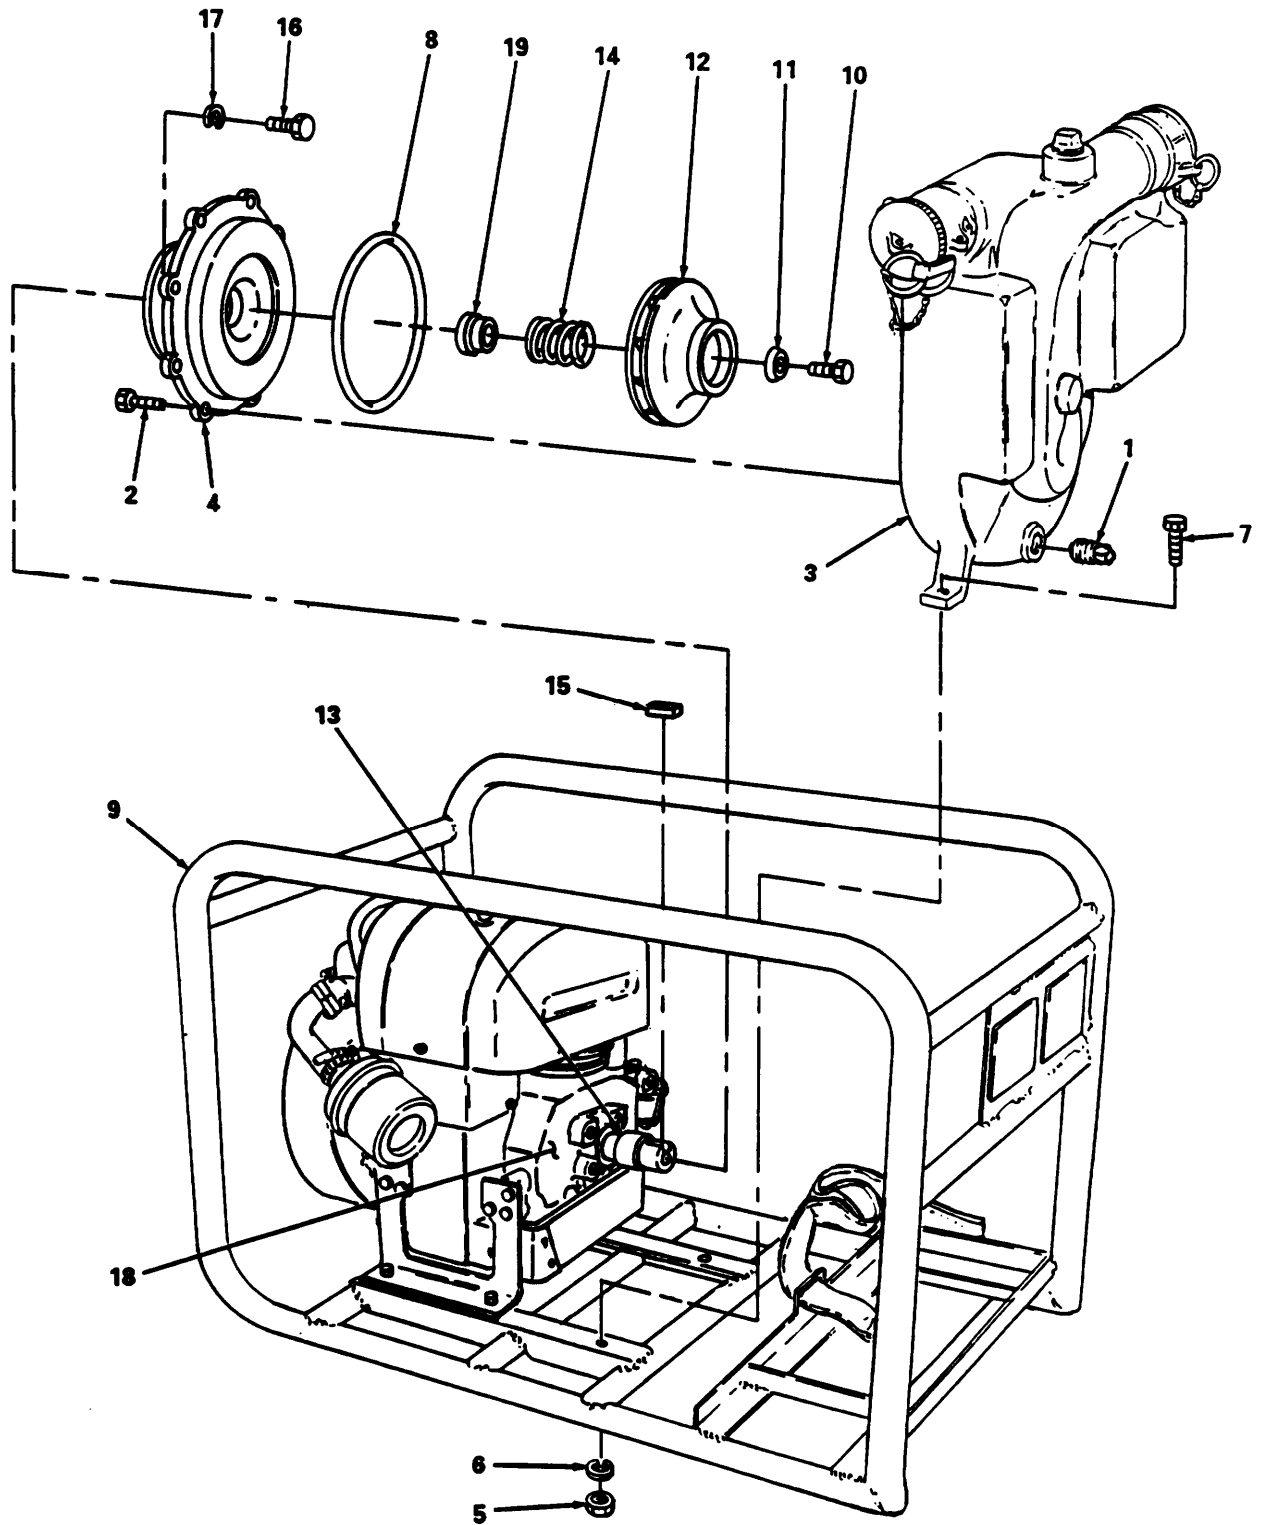

Figure 4-5. Pump Assembly, Install.
b. Install (figure 4-5)
- (1) Install impeller housing (4) and secure with four bolts (16) and lockwashers (17)
- (2) Install seal (19) on pump shaft (13).
- (3) Install key (15), spring (14), and impeller (12) and secure with washer (11) and bolt (10). Refer to Appendix F for torque limits.
- (4) Install pump housing (3) and O-ring (8) and secure loosely with two bolts (7), lockwashers (6), and nuts (5).
- (5) Secure pump housing (3) to impeller housing (4) with eight bolts (2). Refer to Appendix F for torque limits.
- (6) Tighten two bolts (7) securing pump housing (4) to frame (9).